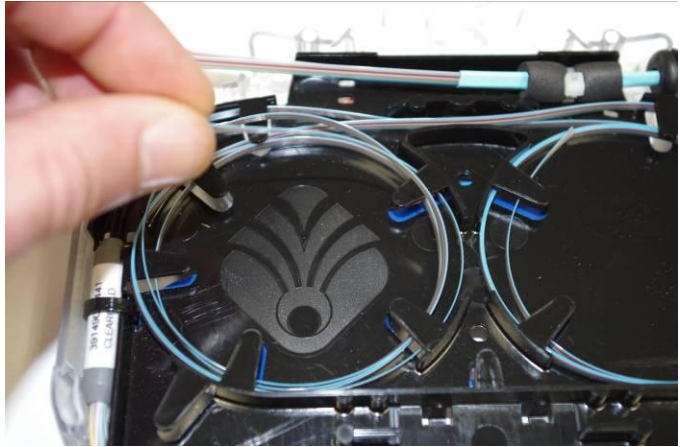

Figure 3
- Step 3:** Carefully, remove the ribbon pigtails from each slack storage loop (**Figure 3**). Then mark transition A on the left with a small piece of tape. This will be spliced to the other fiber marked with tape.